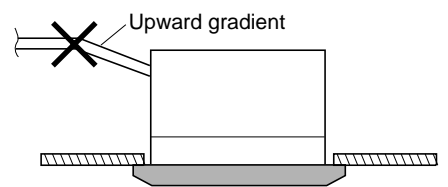

Fig. 3-42
- Do not install the pipe with an upward gradient from the connection port. This will cause the drain water to flow backward and leak when the unit is not operating. (Fig. 3-42)